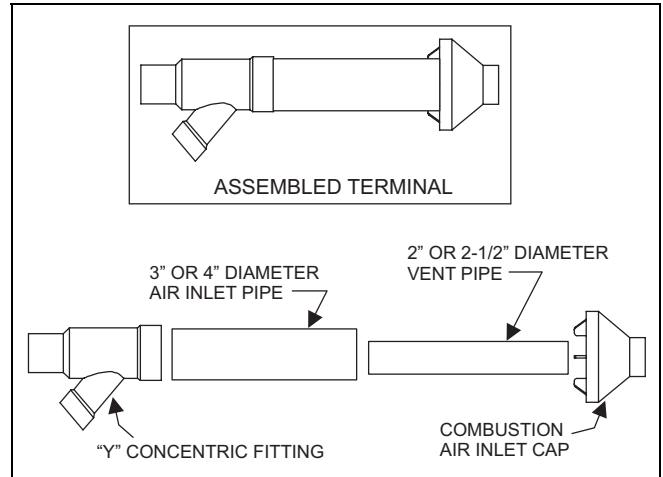

FIGURE 1 - Vent Terminal Assembly
- a. Cement "Y" concentric fitting to larger diameter air inlet pipe (refer to Figure 1).
- b. Cement combustion air inlet cap to smaller diameter pipe (refer to Figure 1).